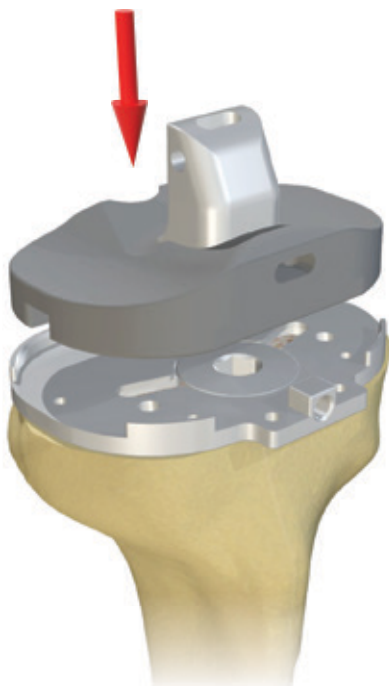

Figure 57
**NOTE.** Before inserting the definitive implants, trial reduction is required (Fig. 57).
Insert the liner onto the trial tibial plate (Fig. 57).